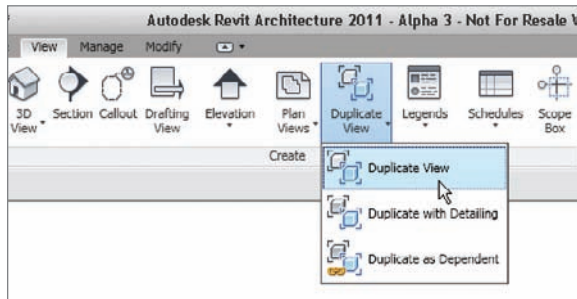

FIGURE 21.3 Duplicating the view
7. Make sure you are in Level 1; then on the View tab, click Duplicate View > Duplicate View, as shown in Figure 21.3.